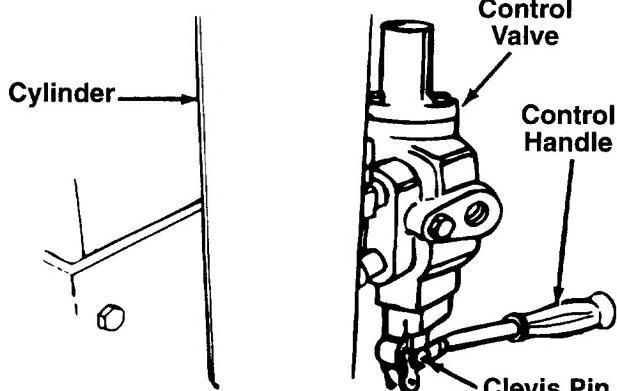

FIGURE 8.
- For shipping purposes, the pressure hose is attached to the pump on the engine, and to the control valve on the cylinder (see figure 8). Disconnect the pressure hose from the pump.
- The bottom of the control handle is already attached to the control valve. Remove the cotter pin and clevis pin which are attached to the valve. Place handle in position, and secure to the valve using the cotter pin and clevis pin. See figure 8.